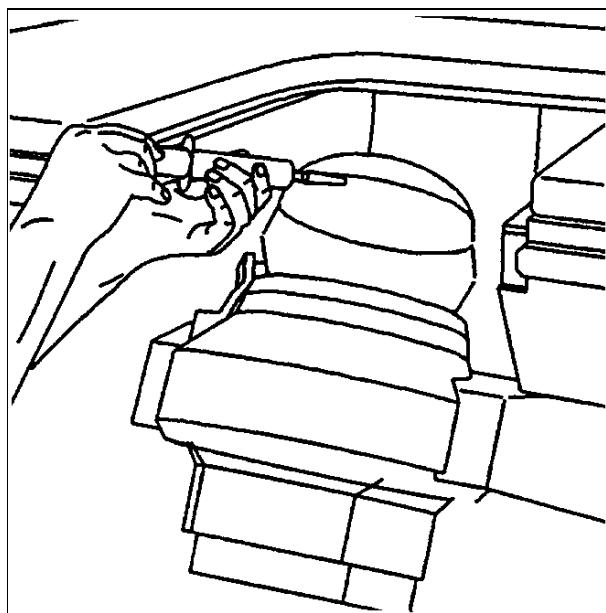

Fig. 3
- Remove air bubbles in the coupling bellows using a syringe (without a needle) (Fig. 3).